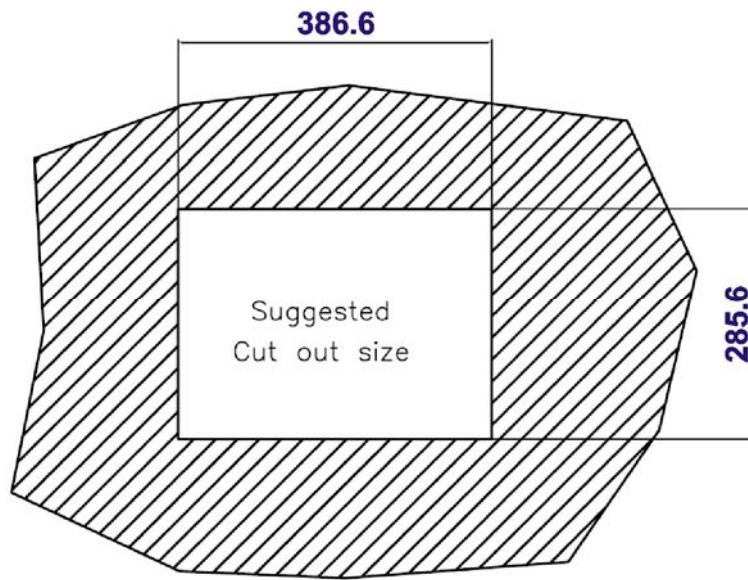
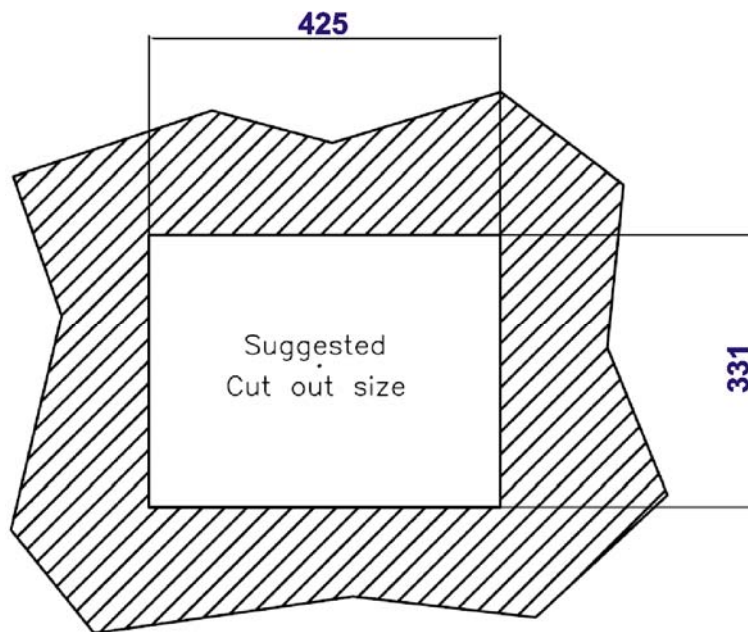
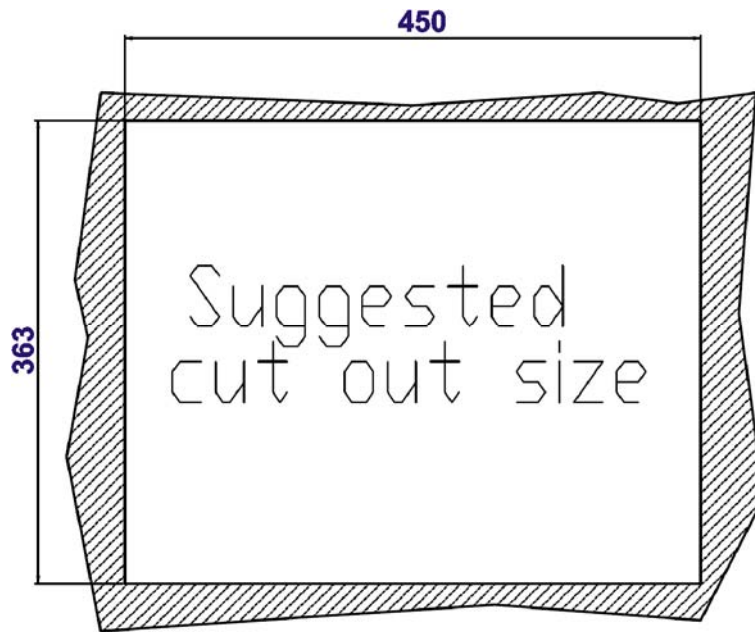

Figure 4-18: 15" Panel Cutout Dimensions
Figure 4-19: 17" Panel Cutout Dimensions
Figure 4-20: 19" Panel Cutout Dimensions
Step 2: Cut out a section of the panel that corresponds to the rear panel dimensions of the PPC-5xxx-9455. The recommended cutout sizes are shown below (Figure 4-18, Figure 4-19 and Figure 4-20).